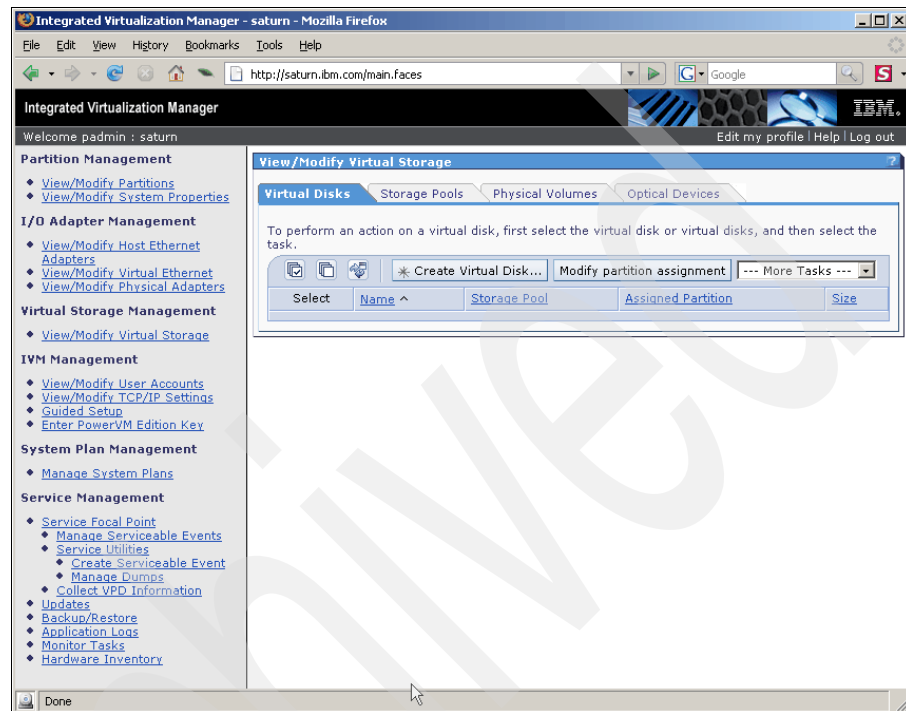

Figure 4-13 View/Modify Storage
3. Verify that you have your storage available to the VIOS. Click **View/Modify Virtual Storage** in the left menu under Virtual Storage Management. See Figure 4-13.